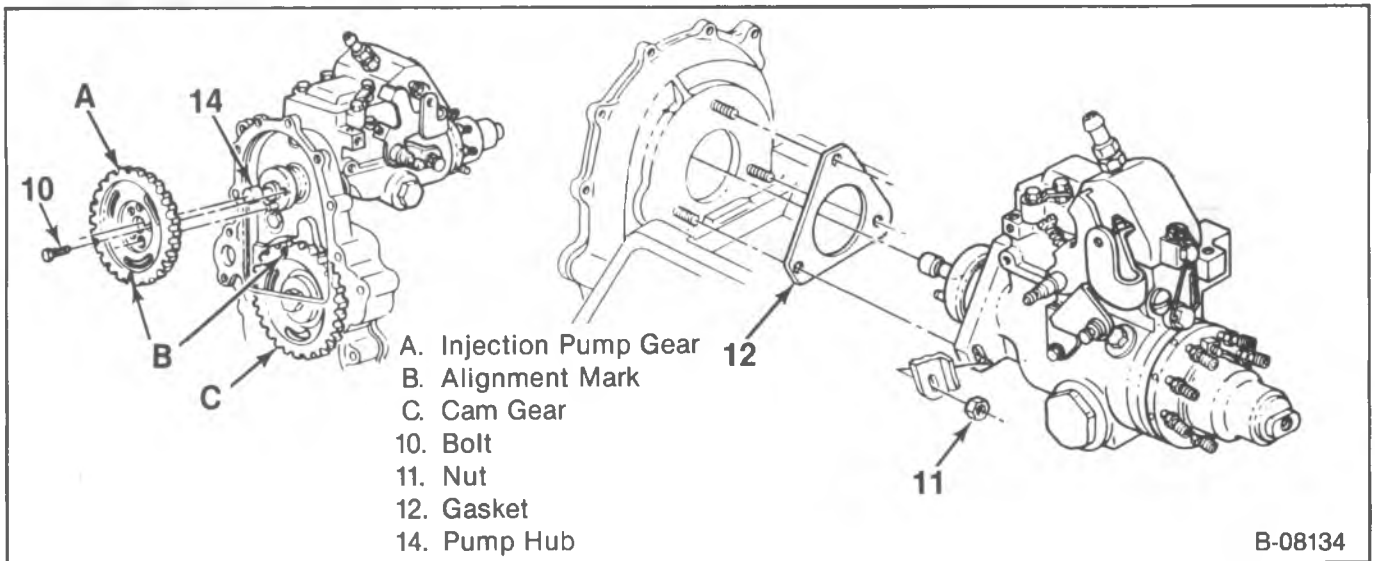

Figure 11—Injection Pump Installation
12. Bolts (10).
13. Nuts (11) (figure 11).
15. Gasket (12).
3. Nuts (11) (figure 11).
4. Drive gear to injection pump bolts (10) (figure 11).
24. Pump to front cover attaching nuts (11) (figure 11).
26. Gasket (12).